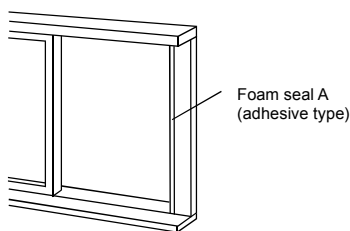

Fig. 12
1. Cut the foam seal(adhesive type) to the proper length and attach it to the window frame. See Fig.12.